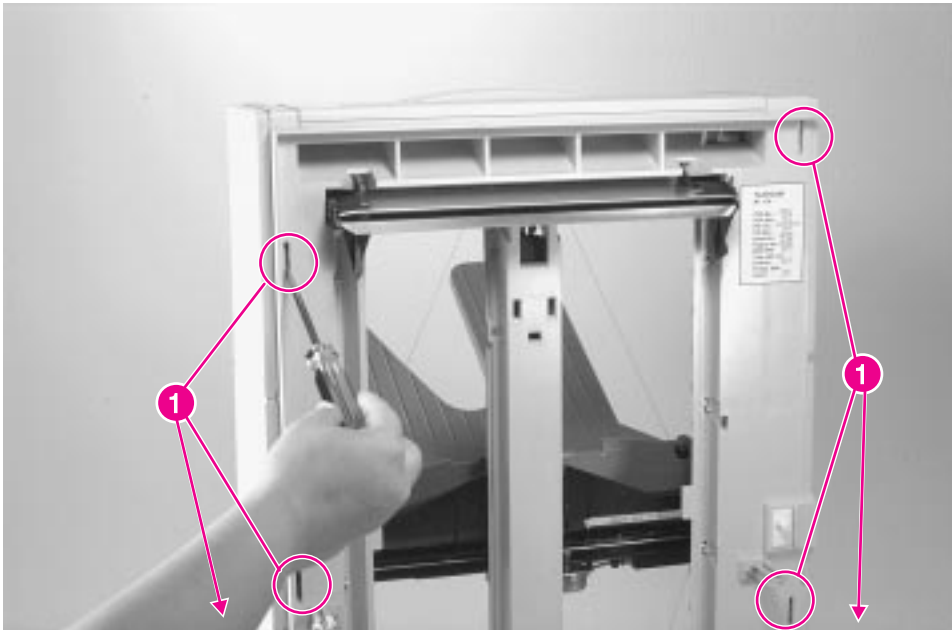

Figure 6-54 Mailbox with Stapler Covers
- 1 Using a small flat-blade screwdriver, release 3 retaining tabs (figure 6-54, callout 1) along the rear edge of the cover, and rotate the cover clear of the frame.
- 1 Remove the left cover (see figure 6-54 on page 223).
- 2 Remove the Left and Right Covers (see figure 6-54 on page 223).
- 1 Remove the left cover (see figure 6-54).
- 1 Remove the left and right covers (see figure 6-54 on page 223).